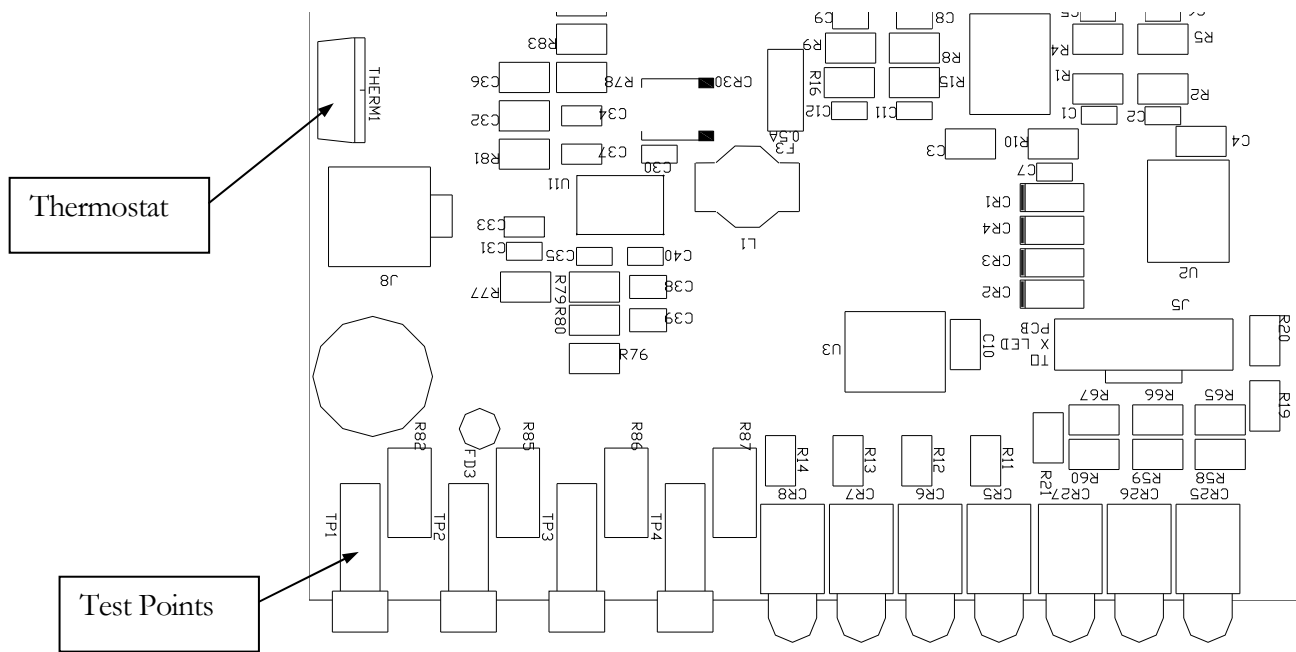

Figure 24 – Thermostat location on interface PCB
A normally closed thermostat is located on the interface PCB which will shut down the PDU due to extreme temperatures. The thermostat is rated 45°C +/- 5°C and is installed in the positive leg of the 24V EMO power to the EMO loop. If the temperature reaches the thermostat set-point, the thermostat will open and trip input breaker CB1 resulting in the shut down the PDU. The thermostat will automatically reset after the temperature has reached about 35 degrees C, but the PDU will remain off since the input breaker will need to be turned on. The thermostat should re-set within 1 minute as long as the temperature is 4 degrees below the trip range (trip range is 40C - 50C). The PDU will not be able to be turned on until the thermostat has reset. As shown in Figure 24, the thermostat is located on the interface PCB, behind the test points. To check if the thermostat is open/closed, refer to section 2.1 (item 7) of the Service Manual.